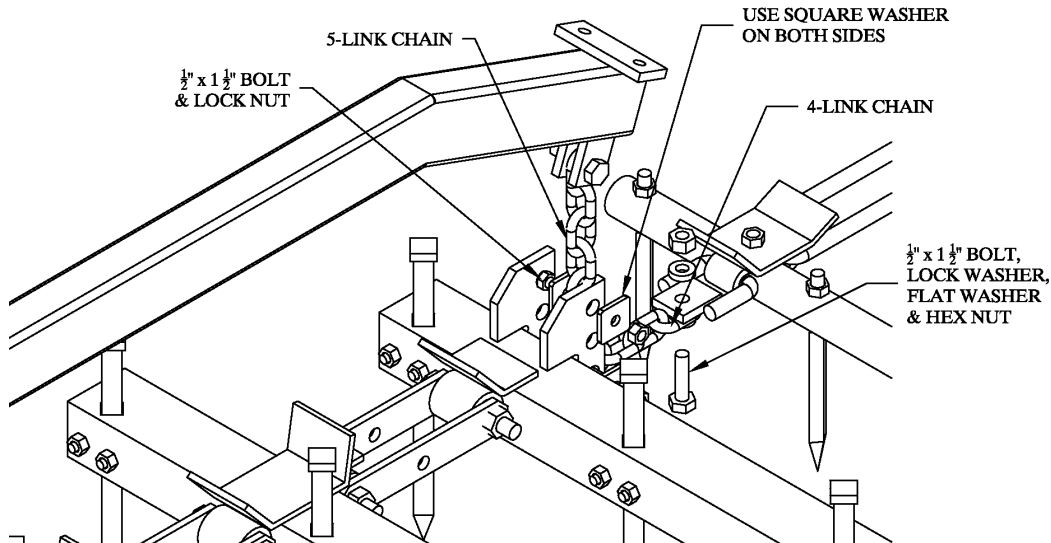

Figure 36
1. Bolt the lift chains to the rear pull point of the front FA harrow sections. Be sure to attach it to the top hole as shown. See figure 36. Use 1/2" x 1 1/2" bolts, square washers and lock nuts. Note that the FA section is shown in the more aggressive position.